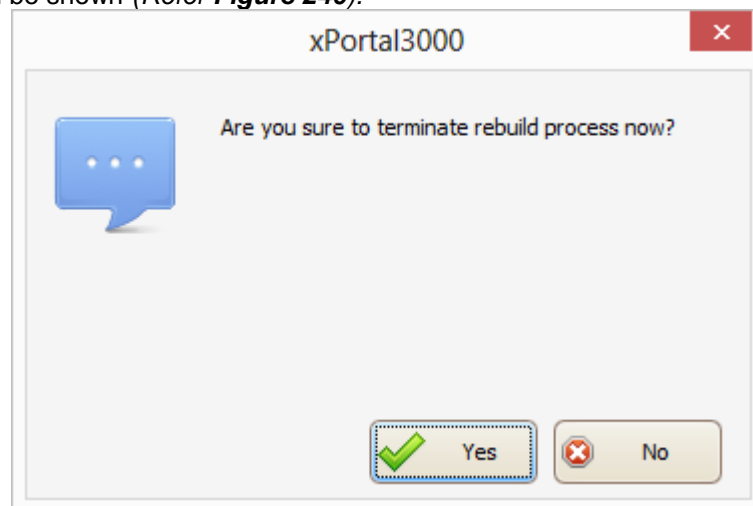

Figure 240 - Terminate Rebuild
2. A dialog box will be shown (Refer **Figure 240**).